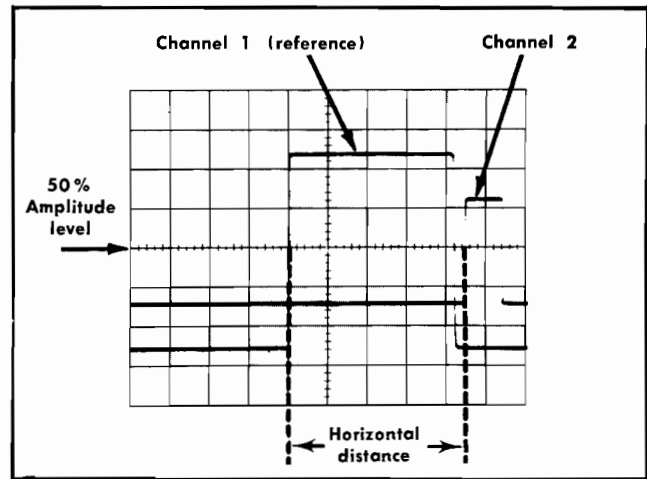

Fig. 2-6. Measuring time difference between two pulses.
10. Measure the horizontal distance between the two measurement points (see Fig. 2-6).